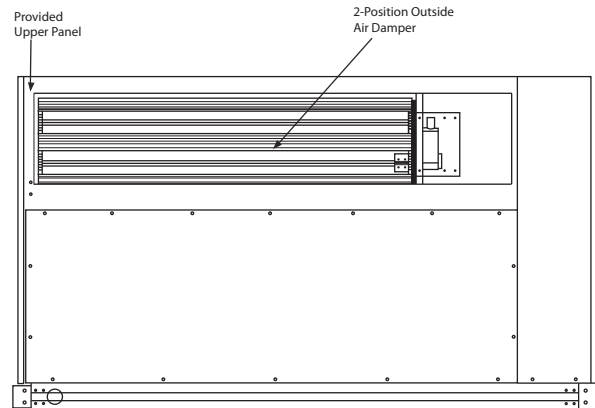

Fig. 4 - Upper End Panel with Damper Attached
- Screw the upper-end panel with the damper attached, in place on the HVAC unit. (See Fig. 4.)